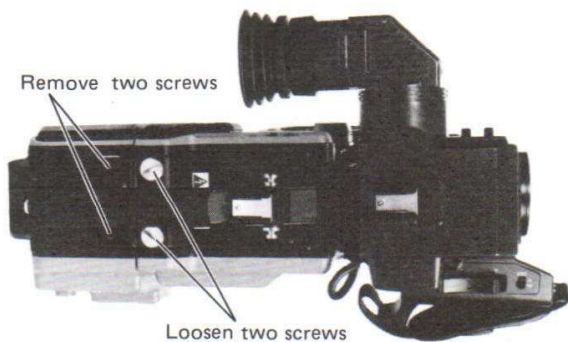

Fig. 2-2-1
- Loosen two screws and remove two screws holding the hand grip (M91) and remove the hand grip. (Fig.2-2-1)